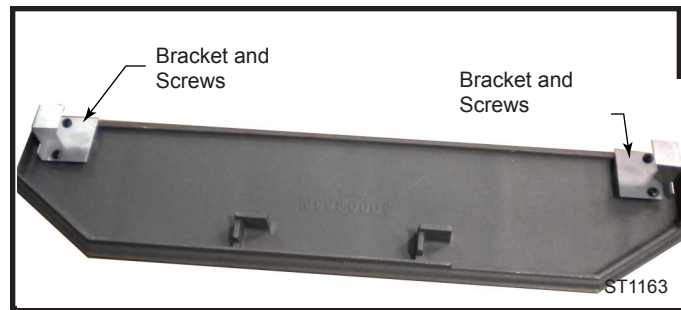
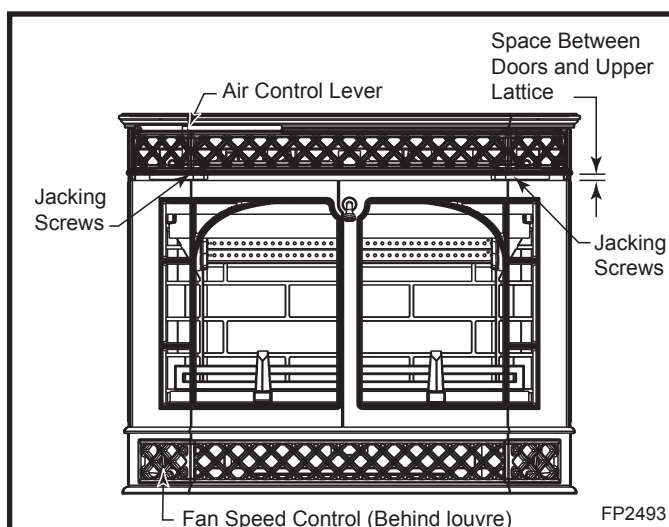

Fig. 8 Secure bracket to mantel with two (2) Philips screws.
Fig. 9 Merrimack Large Insert controls.
4. **Route the blower power cord.** Run the power cord out the left or right side of the insert. Remove the two (2) louvre doors (Fig. 9) or access doors. Remove the screw and washer from each side holding the ashlip
- 5. Install Mantel and Access Door.** For enamel units: Remove the prepackaged mantel and install the two (2) brackets to the underside of the mantel using four (4) 1/4-20 x 3/8" Phillips head black screws already installed in the mantel. (Fig. 8) The brackets can be found in the stove. Remove the screws and use to attach the brackets. For classic black units: Remove the tie strap holding the mantel in place. The brackets are already attached to the mantel. Unwrap the two (2) pre-assembled access doors and snap into place. If the spacing between the doors and upper lattice is not even, you can pull the doors mantel off and adjust the upper lattice. Screw the two (2) jacking screws that contact the front up or down as needed. (Fig. 9)
All Merrimack Large Insert controls are conveniently located on the front. (Fig. 9)
Figure 9 shows the automatic setback control. Move the primary air control lever all the way to the left. Push the primary control about one more inch to the left to open the air shutter (the lever will spring back automatically when released). The shutter will remain open only if the stove is below its proper operating temperature. Once open, the primary air control lever may be adjusted to any desired position. Once the stove heats up to its proper operating temperature, you will here a clicking sound confirming the shutter has closed. This returns the stove to the output setting of the primary air control.